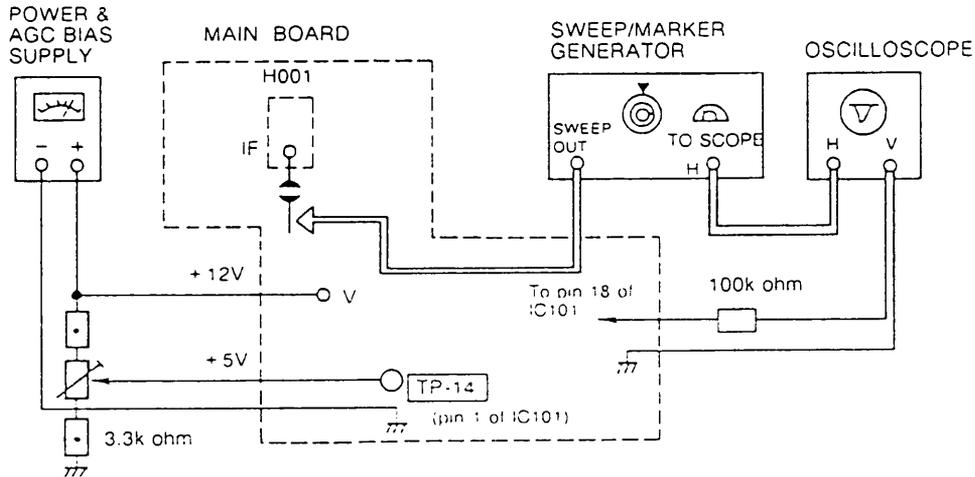

Figure 4. Picture IF Sweep Alignment
- GENERAL..... Refer to figure 4 for test equipment connection.
- PRELIMINARY STEPS 1. Disconnect the solder link (See figure 4.) on the foil side of the Main Board.
- SWEEP/MARKER GENERATOR..... Connect to IF circuit as shown in figure 4.